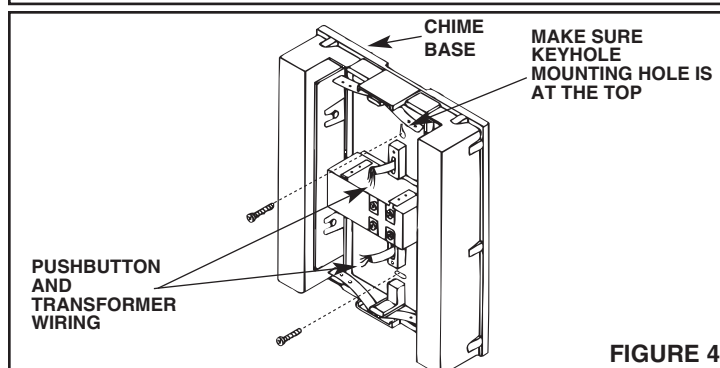

FIGURE 4
Refer to Figure 4.
1. Install four (4) "D" size batteries as shown in Figure 4.